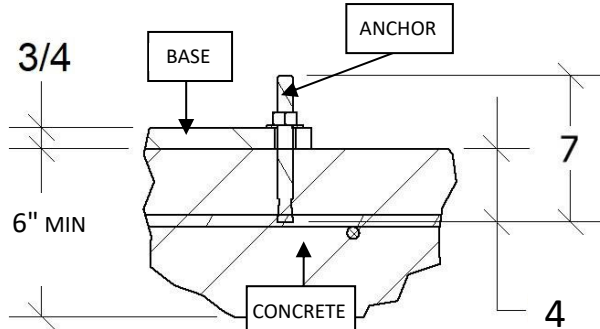

FIGURE 7 : CONCRETE BASE
- 1. FLOOR SPECIFICATIONS :** VERIFY AND MEET FLOOR SPECIFICATIONS BEFORE INSTALLATION. SEE **FIGURE 7.**